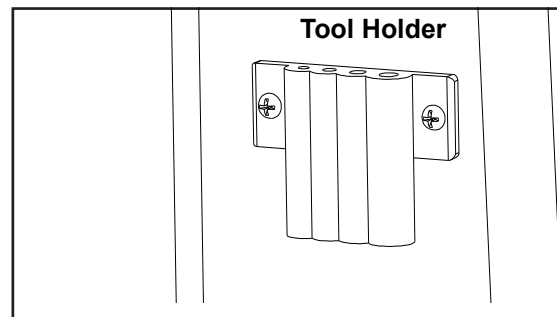

Figure 5
Storage for the “L” Hex Wrenches is provided for quick access when adjustments are needed. Place the (4) wrenches (3mm, 4mm, 5mm and 6mm) in the tool holder on the rear column support (Fig.5).